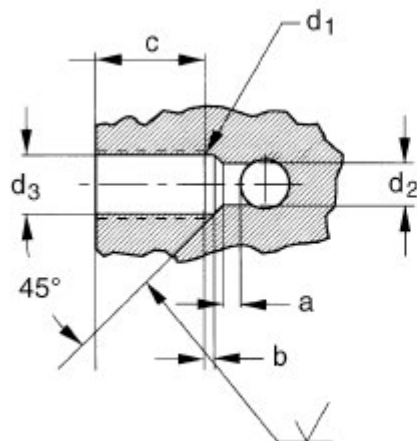

Fig. 06: Mounting hole for transmitter
- Drill the mounting hole as shown in figure 06.
Pressure sealing takes place on the 45° beveled sealing surface and on the front cylindrical section of the PT (see figures 06 and 07).